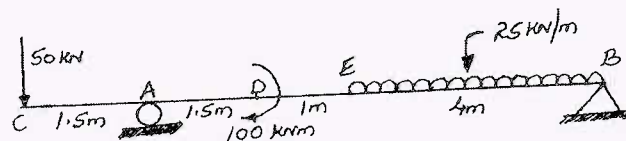

Fig. Q6 (b)
- b. Sketch SFD and BMD for the beam shown in Fig. Q6 (b) indicating salient values (including point of contraflexure, maximum -ve and maximum +ve BMS and maximum SF). (15 Marks)